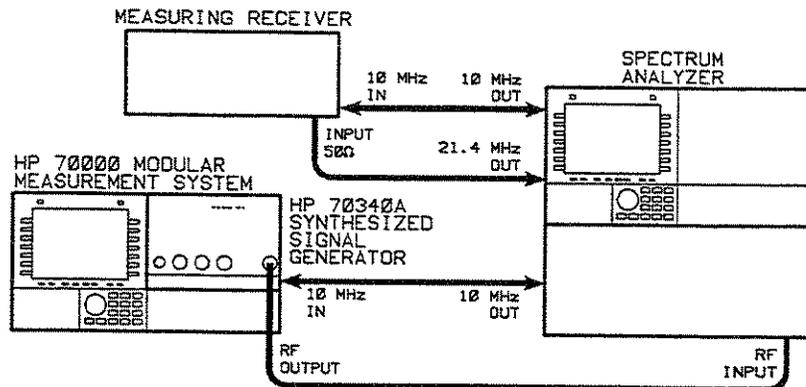

Figure 1-6. 10 MHz to 1 GHz Low Level Accuracy Test Setup using Measuring Receiver
1. Connect the equipment as shown in Figure 1-6.